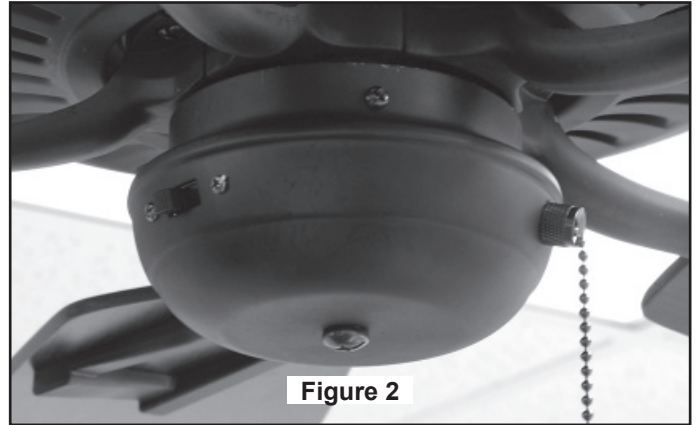

Figure 2
4. Loosen the two setscrews in the Downrod Support. Install Downrod into Coupler. Align the Clevis Pin holes in the Downrod with the holes in the Downrod Support. (Figure 2)
5. Install the Clevis Pin, Hairpin Clip and tighten Set Screws. (Figure 2) The Clevis Pin and Hairpin Clip must be properly installed to prevent the Set Screws from working loose.
1. Securely attach the hanger bracket to the outlet box using the outlet box screws and washers supplied with the outlet box (Figure 2).
NOTE: Outlet box screws pass through slotted holes of the hanger bracket (Figure 2).
3. Carefully lift the fan and seat the downrod/hanger ball assembly on the hanger bracket that was just attached to the outlet box (Figure 3). Be sure the groove in the ball is lined up with tab on the hanger bracket (Figure 2).
4. Attach Blade Holders to the Motor Hub using the Screws w/Lock washers as shown in Figure 2.
5. Make sure the screws with lock washers securing the Blade Holders to the Motor Hub are tight and that the Blade Holders are properly seated. (Figure 2)
2. Assemble the Switch Cup Assembly onto the Housing Adapter with three screws. (Figure 2)